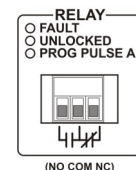

Figure 2.9: Relay Contact Connectors
The Model 1094B has one set of Form C relay contacts that have three contact points: Normally Open (NO), Normally Closed (NC) and Common (COM) as illustrated in Figure 2.9. Contact functions include Fault, Out of Lock or Programmable Pulse A. Fault, or Out-of Lock, relay functions are defined when relay is de-energized (e.g. clock powered off). To configure the contact function, see Section 5.3. For information on how to connect to relay contacts, see Section 9.5; for specifications, see Section A.4.
Two examples are cited to clarify the relay operation. The left pin in Figure 2.9 is the Normally Open (NO) contact to the Common (COM) center pin. The right pin is the Normally Closed (NC) contact to the Common (COM) center pin.